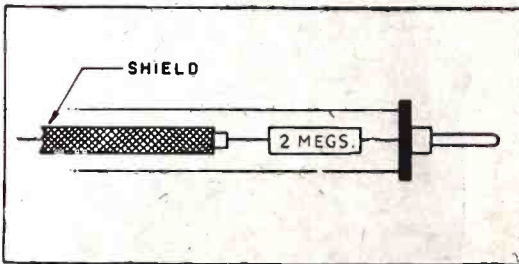

Fig. 2—Construction detail of the test probe.
As shown, four cross-bars (F) are mounted on an assembly containing a sphere (I) at the top, the pivot being a sphere in a conical recess (Fig. 1). The extremity of each cross-bar is connected to a diaphragm (d) supported peripherally at (e). When a sound wave strikes the large sphere (I) the entire assembly vibrates, causing movement of the corresponding diaphragms in the fields of pot magnets. A light weight coil which is part of the diaphragm assembly (in the gap between magnetic poles) generates an EMF, diagonally opposite coils being in series (Fig. 2) and led to amplifiers (m) and (m') and thence to